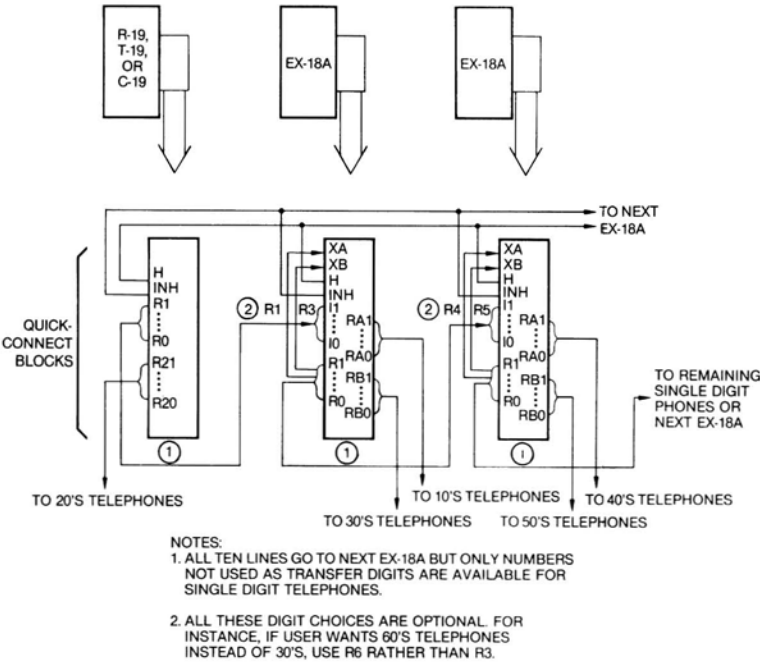
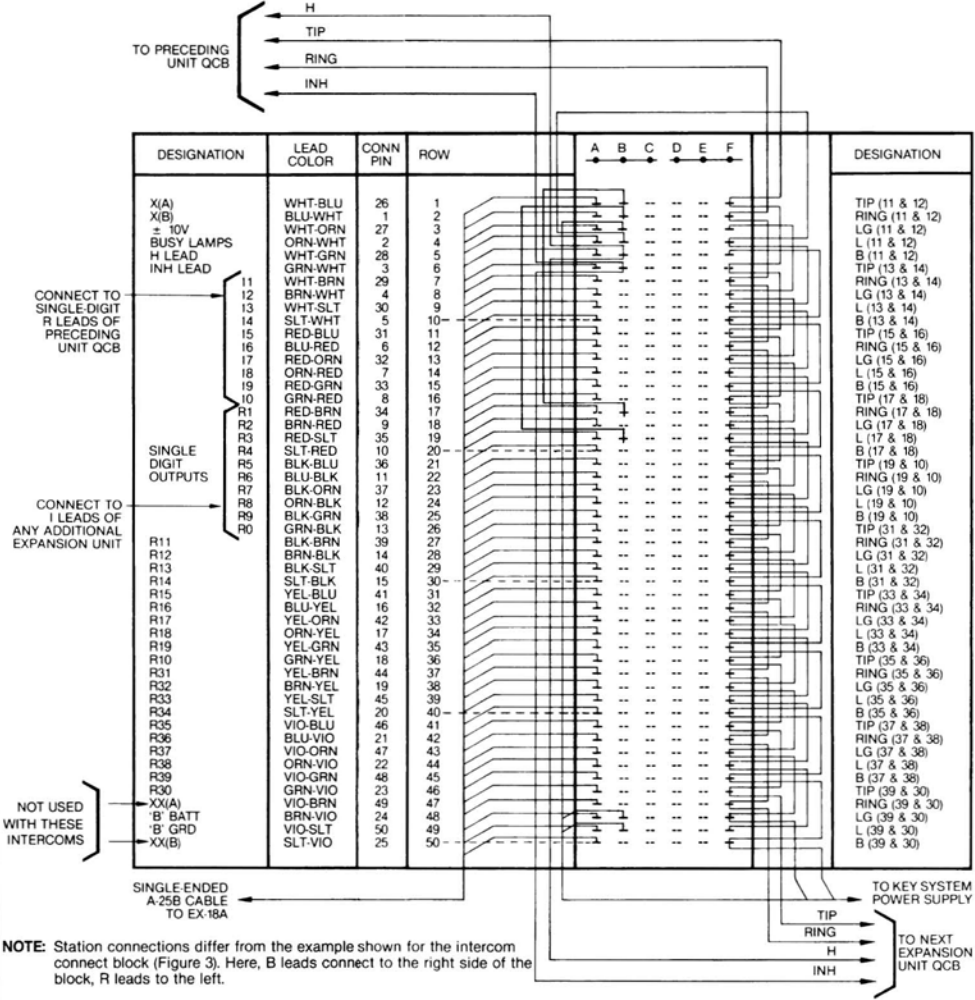

Figure 4 Overview of Connections for Expanded Systems
Figure 5 66B Connect Block Layout for Expansion Unit (For RTC Intercoms Only)
Figure 4 provides an overview of connections for expanded intercom systems. Figure 5 shows 66B connect block connections for an EX-18A unit. Note that:
- To add 19 stations to an intercom unit, the intercom connect block's R1 through R0 outputs must be connected to the I1 through I0 inputs on the expansion module connect block. Similarly, for each added expansion module, R outputs are brought from the preceding connect block to the I inputs of the next connect block, as shown in Figure 4.
- Transfer digits are assigned by strapping single-digit R outputs to the X(A) and X(B) terminals. For example, Figure 4 shows strapping for 10's and 30's stations at R1 and R3.
- Inputs X(A) and X(B) will accept any one of the following voltages: 10 VAC; 18 VAC; 105 VAC, 30 HZ; or GRD. (If using the key system battery supply, the **negative** side